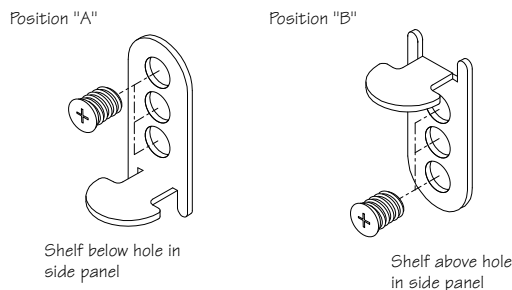

Figure 2
**2** The shelf rests can be installed either with the rest platform down or up (see Figure 2.) Any of the (3) holes can be used for attachment, which allows the shelf to be positioned in 3/8" increments for the closest fit to the oven cutout. The shelf should be installed with the top of the shelf flush to 1/16" below the oven cutout, and can be shimmed if necessary (see Figure 3.)
**3** If the shelf rest is installed with the platform up, as in Position "B" (see Figure 2), it should also be taped in place against the oven side panel with duct tape to hold it in position while installing the oven support shelf and oven.